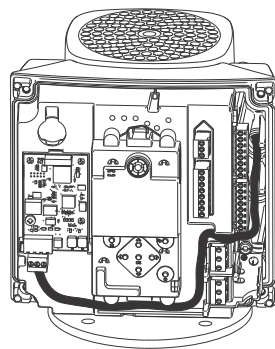

Fig. 61 Example of wire routing
8. Route the wires for the CIM module. See the example in fig. 61.